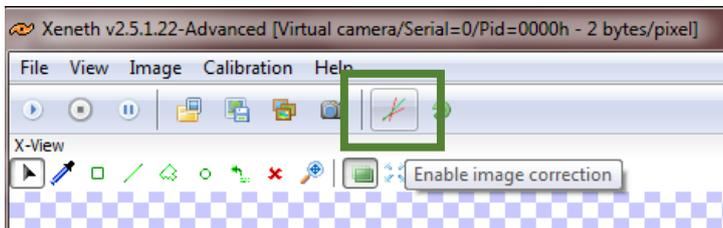

Figure 3.7 Enable image correction
- The correction can be enabled and disabled using the **enable image correction button** (see Figure 3.7).